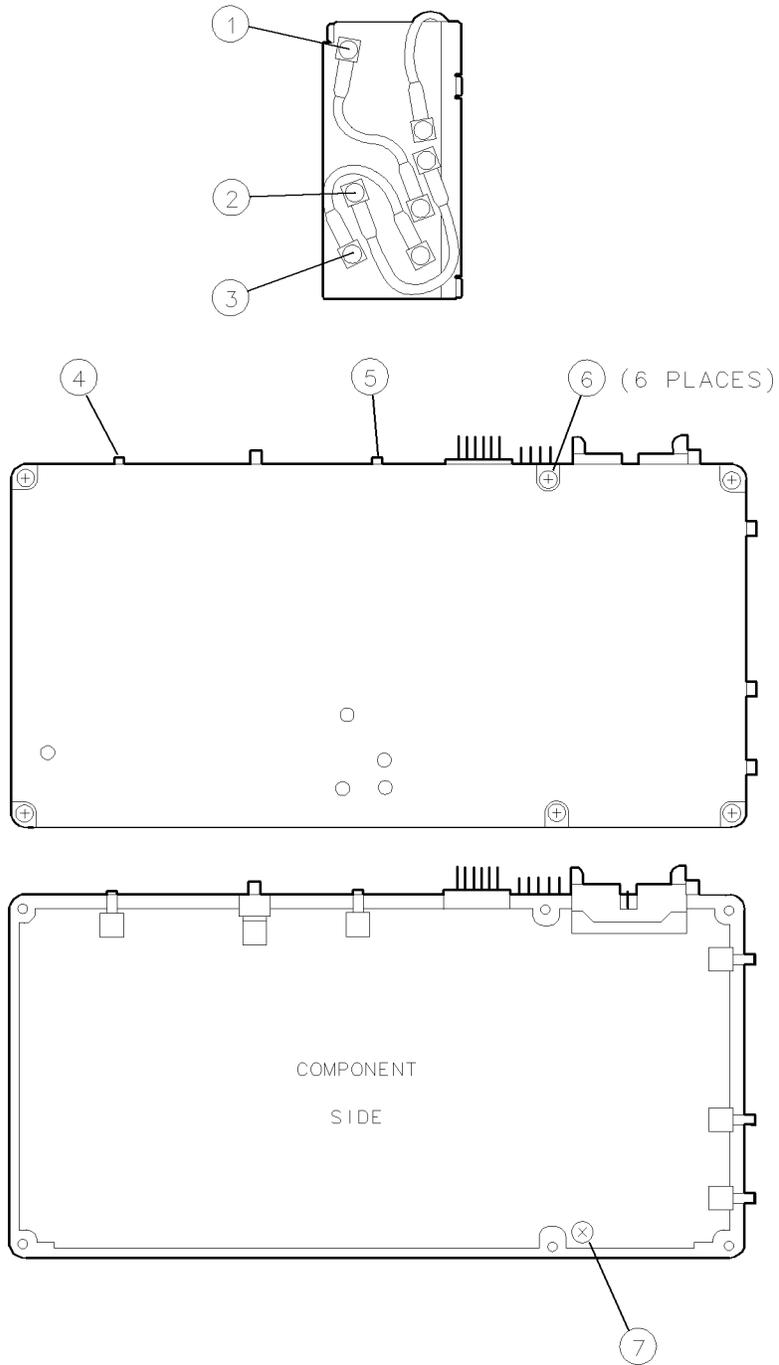

Figure 9-17. A7A2 FFS Analog Removal/Replacement for Serial #3144A01387 and Below
2. Disconnect cables ①, ②, and ③ from the A7A2 FFS analog. Refer to Figure 9-17.
3. Disconnect A7W5 and A7W4 from the assembly jacks ④ ⑤.
4. Remove the six screws ⑥, and with the cover side down, remove the assembly from the cover.
5. Remove the one screw ⑦ from the assembly, then remove the A7A2 FFS analog.